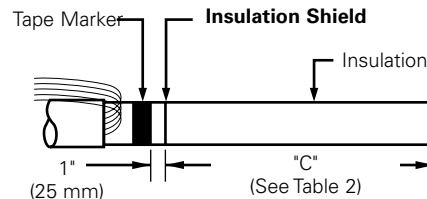

Figure 5. Line illustration of cable stripback.
- Remove insulation shield length "C" from end of cable. (Refer to Figure 5 and Table 2 to determine variable "C" length.)
- Measure 1" (25 mm) from end of insulation shield. (Refer to Figure 5.)